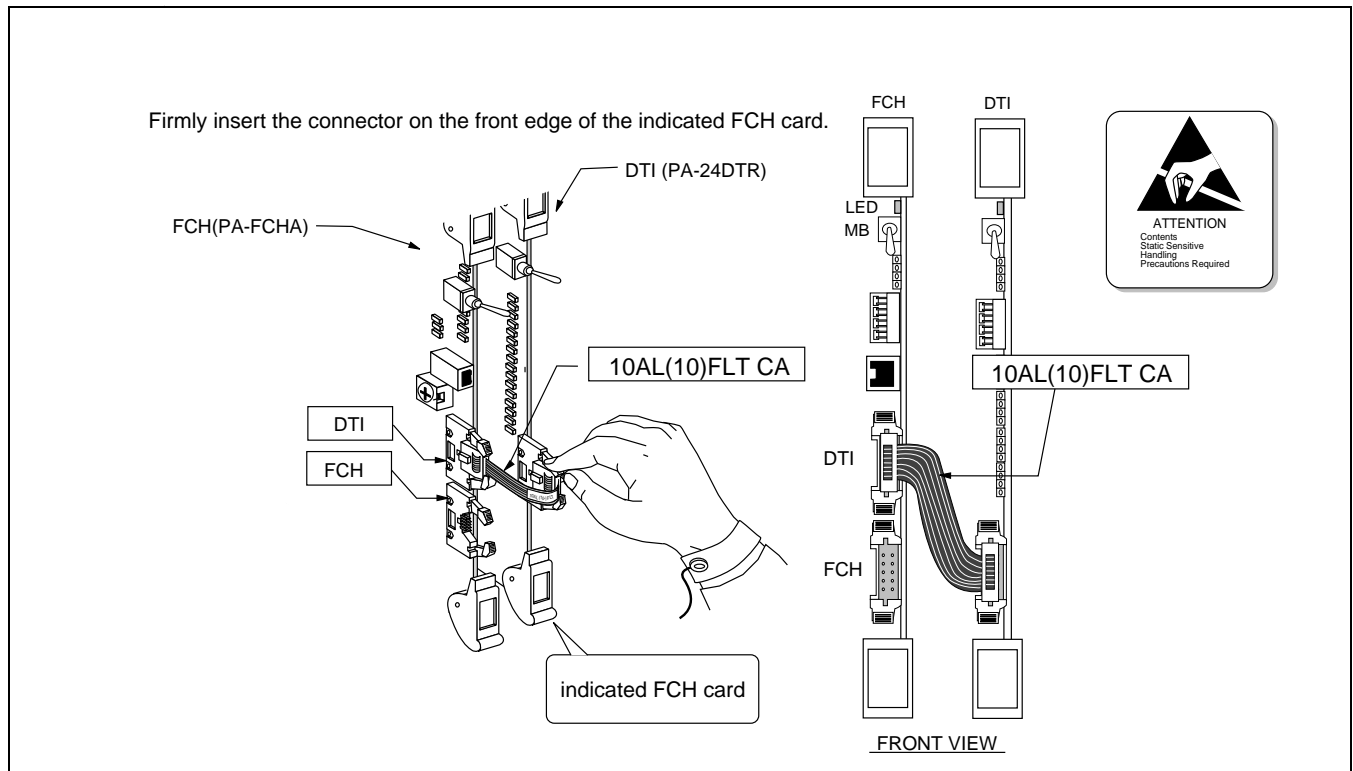

Figure 7-10 FCH-DTI Connection
STEP 1: Make sure that the front cable is securely inserted. See Figure 7-10 below.
STEP 4: Replace the front cable labeled 10AL (10) FLT CA, since the cable is suspected as faulty.
STEP 1: Make sure that the front cable is securely inserted. (See Figure 7-10.)